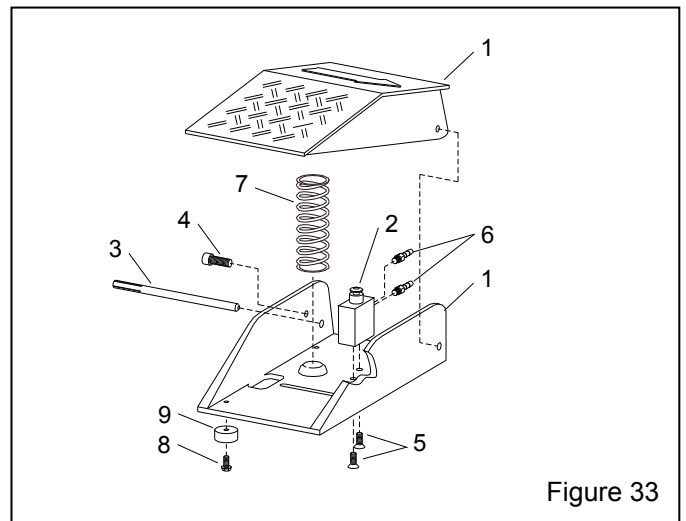

Figure 33
9.7 Foot Pedal Assembly, Figure 33